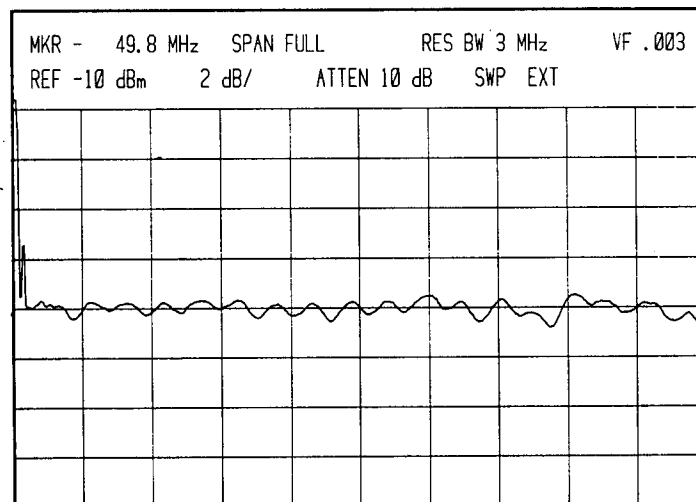

Figure 5-57. CRT Plot of Typical Frequency Response, .01 to 1.8 GHz
32. Adjust A20R14 B1A, A20R9 B1B, and A20R10 B1C to set best line at center horizontal graticule line, with minimum slope (see Figure 5-57). If frequency response is ≥ 1.2 dB, adjust A20R71 V1 to minimize amplitude variations.